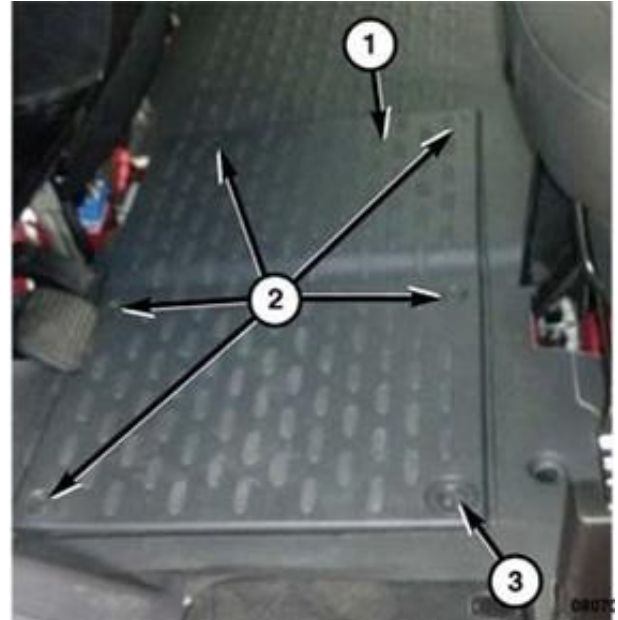

Figure 3 – Battery Cover
2. Turn the ignition switch to the Off position. Be certain that all electrical accessories are turned off (Figure 3).
3. Remove the battery cover (1) by loosening fasteners (2, 3) (Figure 3).